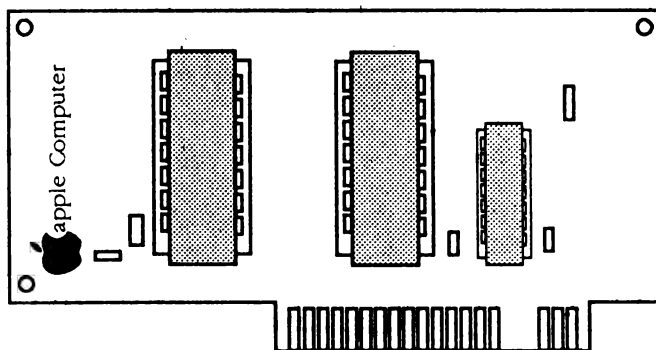

FIGURE 8
- IPL.11 Apple II Language Card (Figure 8)
□ APPLE II LANGUAGE CARD (Figure 8)